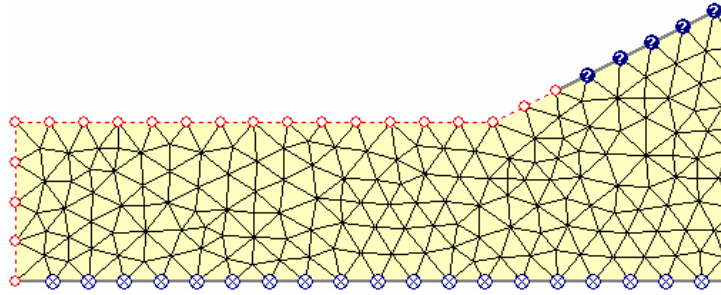

Figure 8-3: Assigning boundary conditions (selected segments).
5. Click on the THREE segments of the external boundary indicated in Figure 8-3. (ie. the left edge of the external boundary, and the two segments at the toe of the slope).